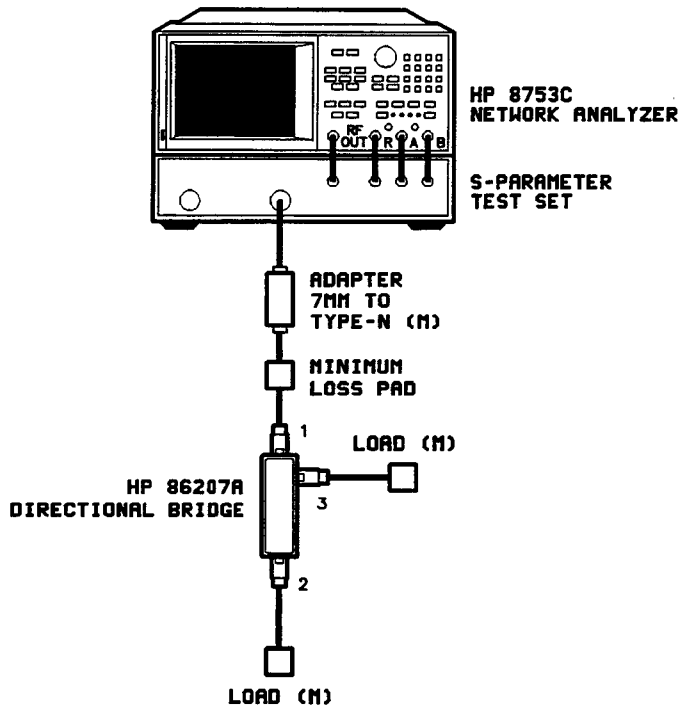

Figure 3-5. Equipment Setup for Return Loss Measurement on Port 1
- Connect the equipment as shown in Figure 3-5 to measure the return loss.